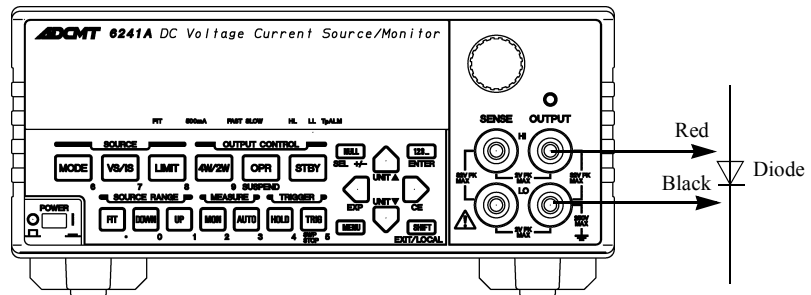

Figure 3-1 Diode Measurement Connection
1. Connect the diode as shown in Figure 3-1.